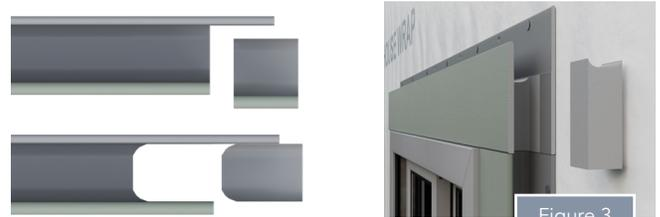

Figure 3
- To achieve the Craftsman style detail, rabbit the receiving pockets on the trim to the coordinating depth on adjacent trims to allow for a consistent pocket depth when the siding is installed (Figure 3).